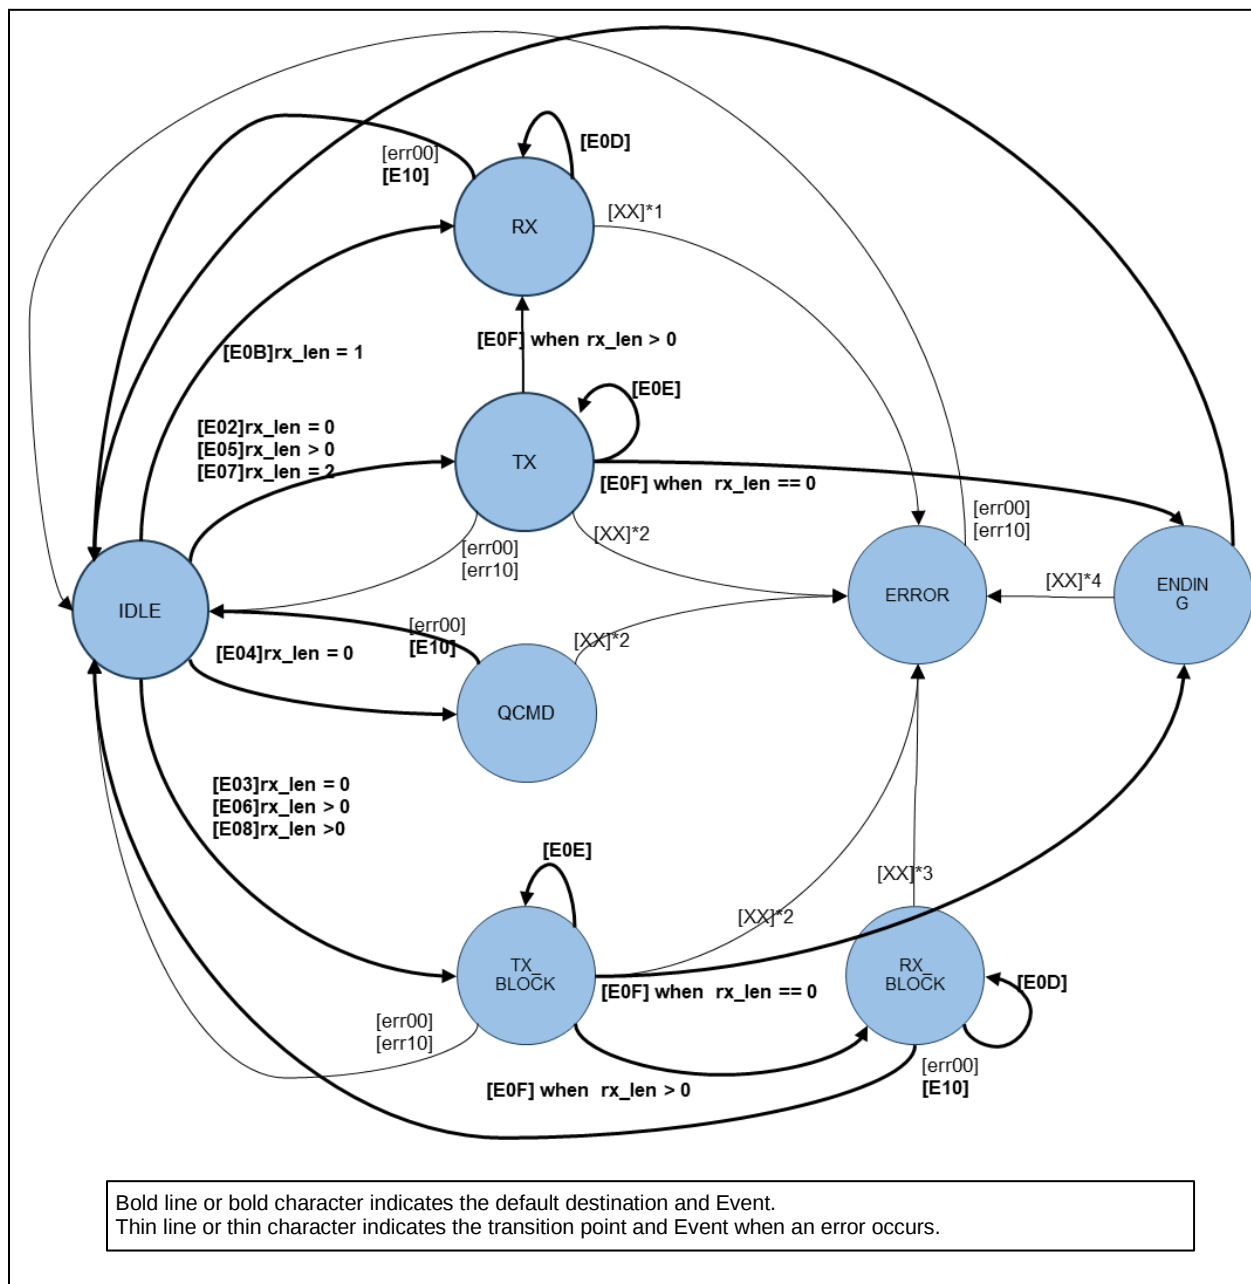

Figure 28 PMBus Master Application Layer status transition diagram
The status of Application Layer of PMBus Master manages the status of send, receive, Quick command, Block command, and error-handling in accordance with the command code. Figure 28, Figure 29, and Table 12 show below.
- Light blue indicates the state transitions in Figure 28